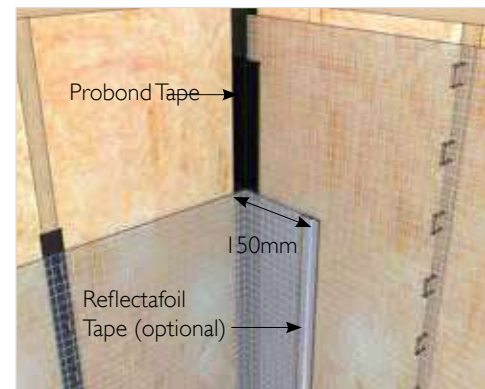

Fig. 3: Corner joint detail showing fixing placement through Probond Tape
4. Mechanical fixings (staples) may be used to permanently attach the VCL to the underlying substrate/stud/fixing rail by firing through the run of Probond Tape. The Tape ensures vapour-tightness by sealing the fixing puncture. (Fig.3)
5. Perimeter edges may be sealed with Reflectafoil Tape (Fig.3).